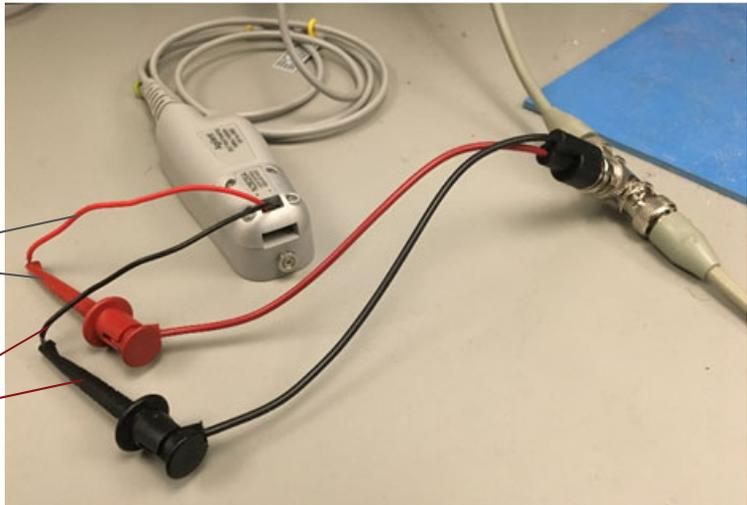

Figure 31 Example of Setup for the Gain Calibration Step
- 8 Follow the steps that are displayed on the oscilloscope. For the Gain Calibration step, connect the N2825A's sensor leads (red and black wires) as shown in Figure 31. The black wire should connect to the black test clip of the Pomona 3788 and the red wire should connect to the red test clip of the Pomona 3788.